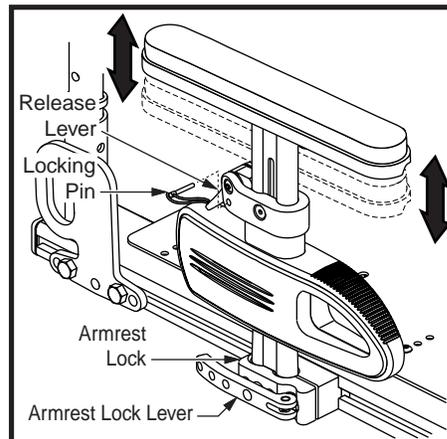

Figure 15. Pediatric Single Post Quick Height Adjustable Armrest Top Height Adjustment
1. If present, remove the optional locking pin. See figure 15.